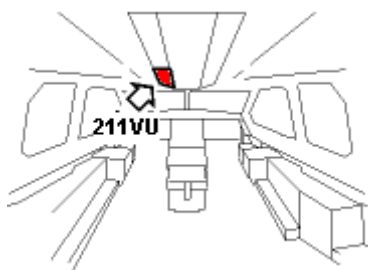

Figure 6. Cockpit Panel Location.
6.7.3 On the control panel 211VU (*Figure 6*), lift the safety cover and Push and hold the EMER GEN TEST pushbutton switch.
6.7.12 On the control panel 211VU (*Figure 6*), release the EMER GEN TEST pushbutton switch.